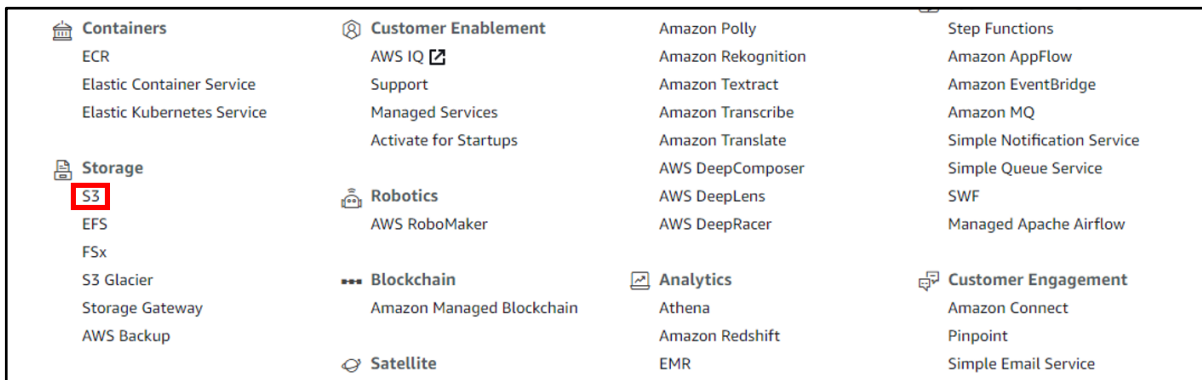

Figure 9: AWS Categories
2. In the **Storage** category, click **S3** as in Figure 9.